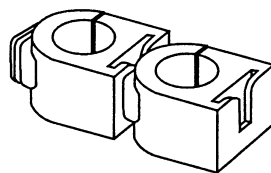

Figure 7 - Two holders
5. Slide the flange of the second holder into the slot of the first holder until the tops of the holders are aligned and secure. See figure 7.